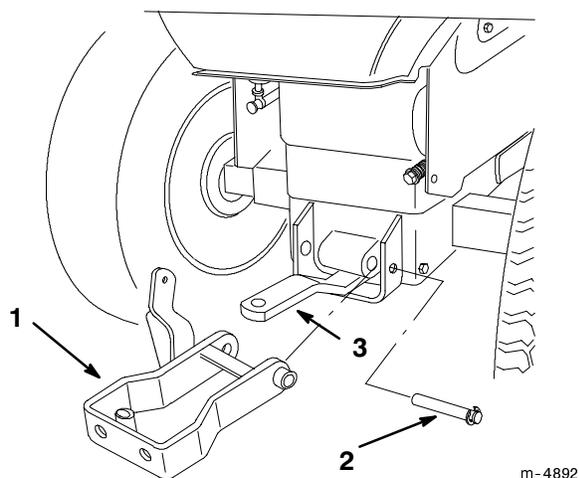

Figure 4
4. Install the drawbar hitch and the clevis hitch, using the clevis hitch in place of the removed spacers and secure the pin with the removed retaining ring (Fig. 4).